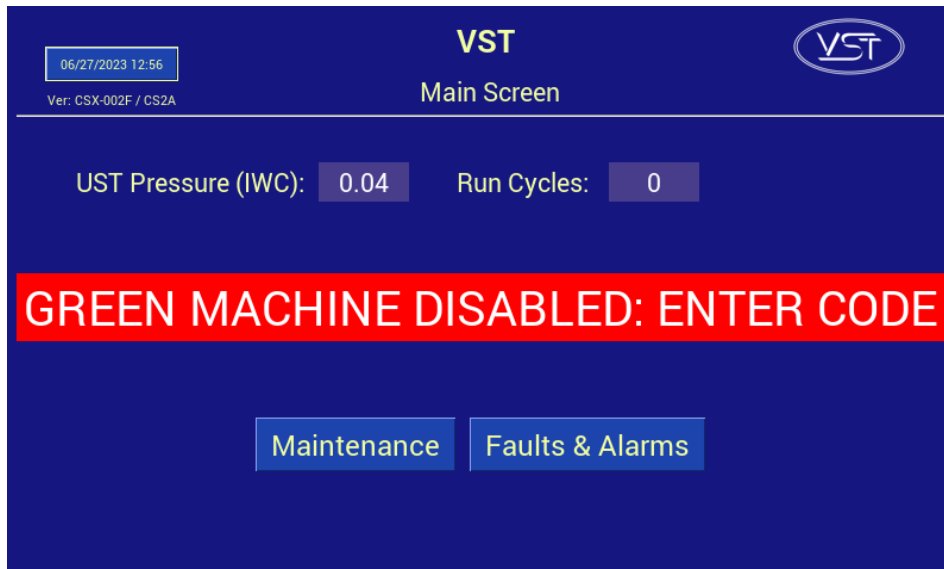

Figure 6-1: Main Screen with Disabled Message
When the power is turned ON to the VST Control Panel, the Main Screen will show on the PLC Screen with the label **GREEN MACHINE DISABLED: ENTER CODE**. See **Figure 6-1**. The Start-Up process can be completed with the GM DISABLED. The code to the VST Control Panel must be entered before the GREEN MACHINE can become operational. The code will be supplied to the Start-Up Contractor via e-mail after Appendix B is submitted online.
5.	At the PLC Main Screen, push the Maintenance Screen button to access the Password Screen. See Figure 6-1.